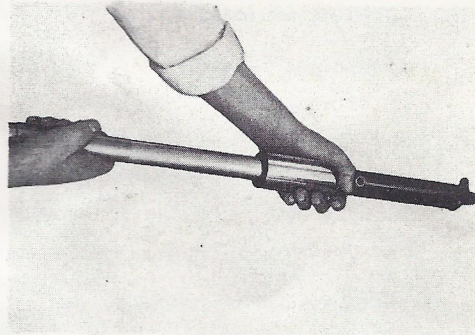

Fig. 4-3-9
- a. For reassembling the front forks, reverse the order of disassembling as mentioned above. Check the inner tube for smooth operation. (Fig. 4-3-9)